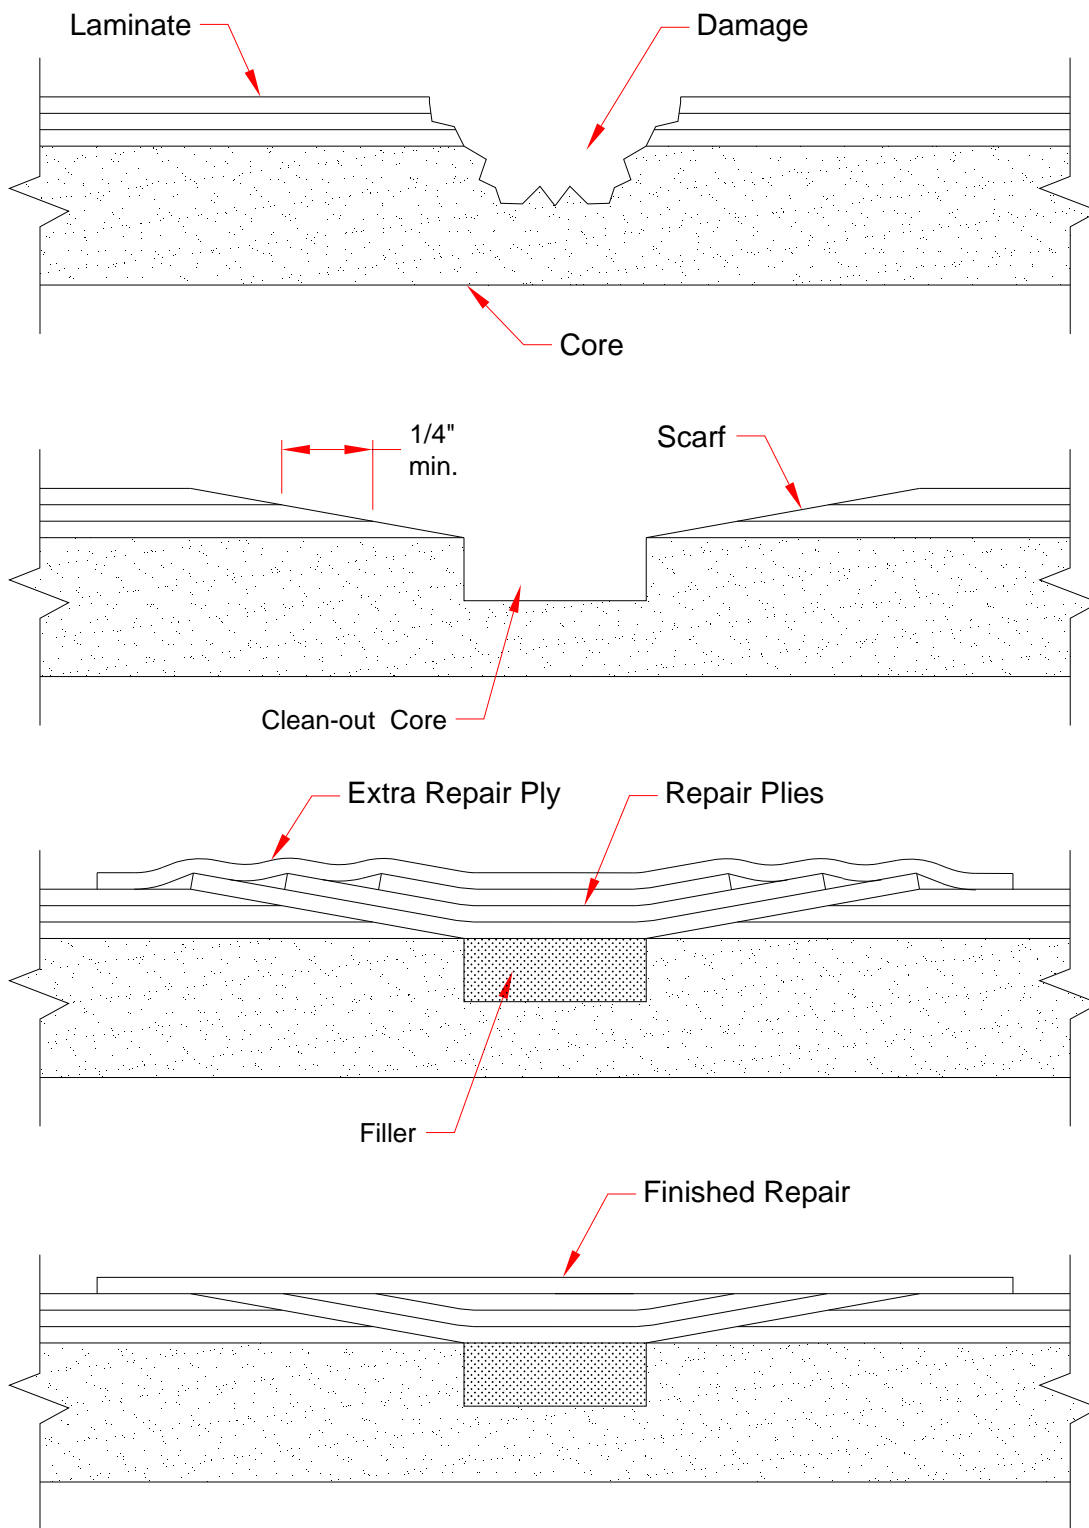

Figure 51-20-04 Core Repair
- Step 4. Scarf the edges of laminate with a grinding disk or block. Refer to Figure 51-20-04 for scarf size.